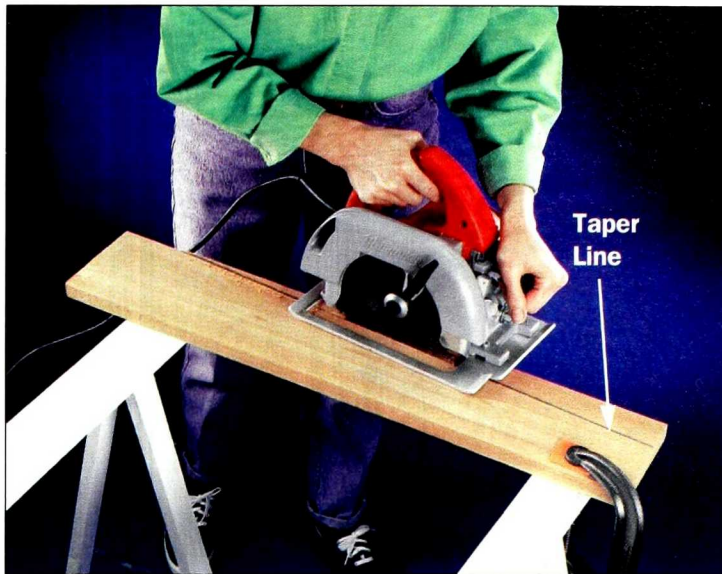

Figure 1: Cut the chair parts with your circular saw. Make tapered cuts for the arms of the chair.
- Begin by cutting all of the pieces listed in the cutting list, with the exception of the back stiffener (G), lower side slat rails (S), and under arm cleats (T). These parts must be cut later to fit the chair when it's partially assembled.
- Take particular care to cut the side slats (R) exactly the same length. These slats must fit against a rail (S), and any differences in length will result in gaps.
- Cut the arms of the chair and loveseat (D) with a 2-inch taper from front to back (Figure 1).
- When cutting the lower back brace (E), middle back brace (F), and back stiffener (G) set the blade angle of your circular saw to 20 degrees.